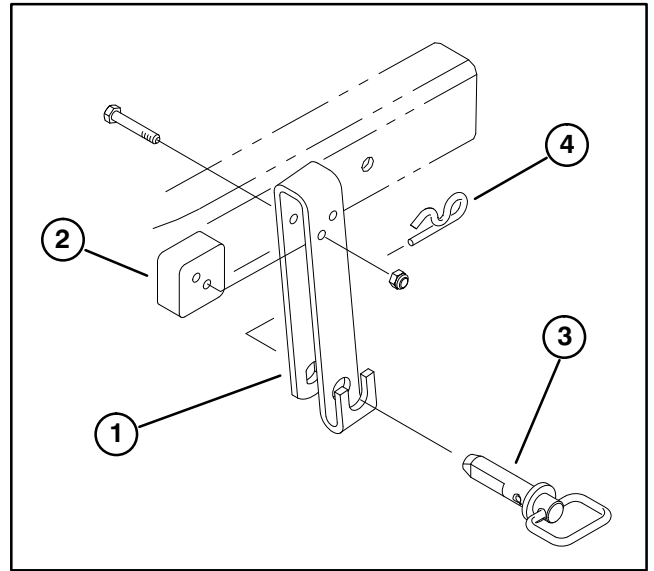

Figure 3
5. Mount a wear plate inside of each rear deck strap with (2) capscrews and locknuts (Fig. 3). Capscrew head to be positioned inward as shown in figure 3.